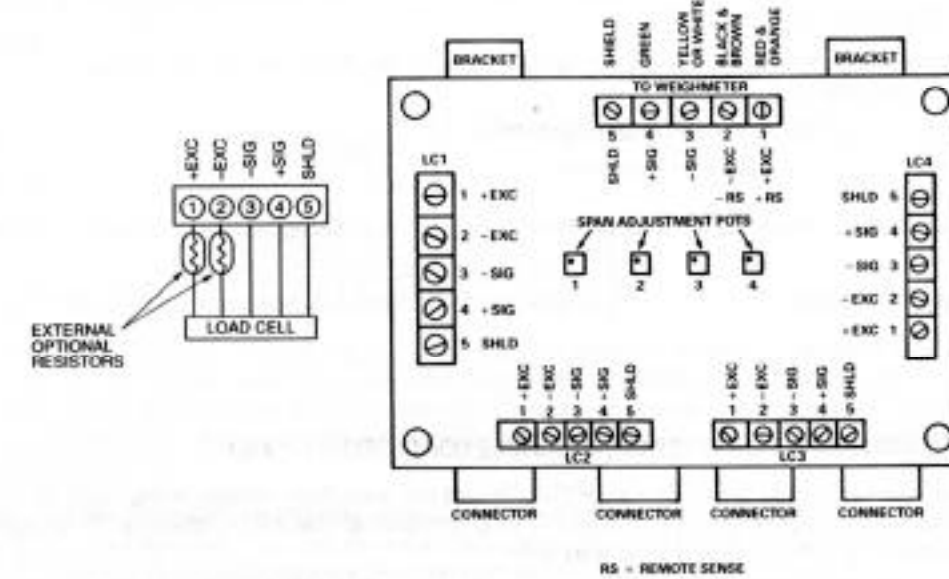

Figure 3-1. Location of Terminal Strips and Span Pots
- Connect the load cells cables to the junction box and junction box output cable to the associated readout. The positive and negative remote sense lines should be used for all junction boxes to readout cable runs. Refer to Figure 3-1.
where Z are the values of the load cell for which you are calculating the external resistors. The division of 2 occurs because you want to add 2 resistors. One resistor is placed in series with the positive excitation lead, between the JBOX and the load cell. The other resistor is placed in series with the negative excitation lead, between the JBOX and the load cell. Refer to Figure 3-1. The resistor should be a metal film resistor with as low a ppm as possible (100 ppm or less is acceptable). PPM is parts per million of ohm per °C of change.